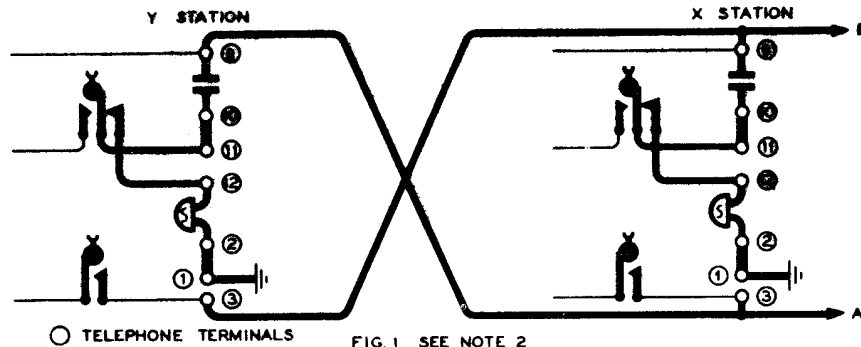

FIG. 1 SEE NOTE 2
2. **RINGING:** The two telephones (stations) of a 2-party line are wired as shown in Fig. 1 so that one, the X station, responds to ringing applied to the B-wire and the other, the Y station, to ringing applied to the A-wire. At Y stations, connection of the bell circuit to the A-wires is achieved by reversing the A and B-wires of the exchange line at the telephone.